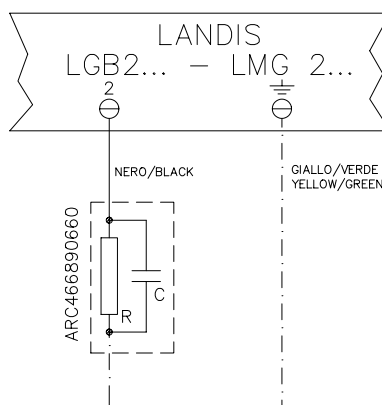
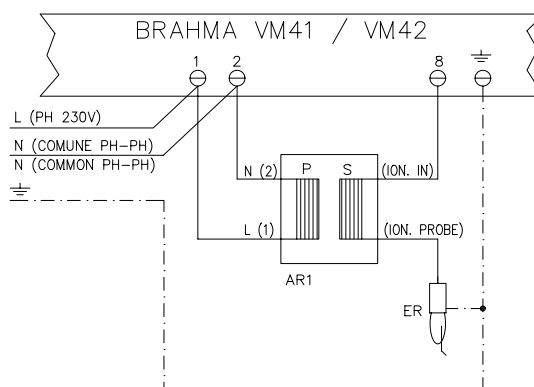

Fig. 29a
Fig. 29b
If the power supply to the burner is 230V phase-phase (without a neutral), with the Brahma VM4., to increase the voltage between the electrode and the ground, you need to use the insulation transformer Brahma AR1 (our code 2531006), connected as shown in Fig. 29b
* See Fig. 29a and Fig. 29b.